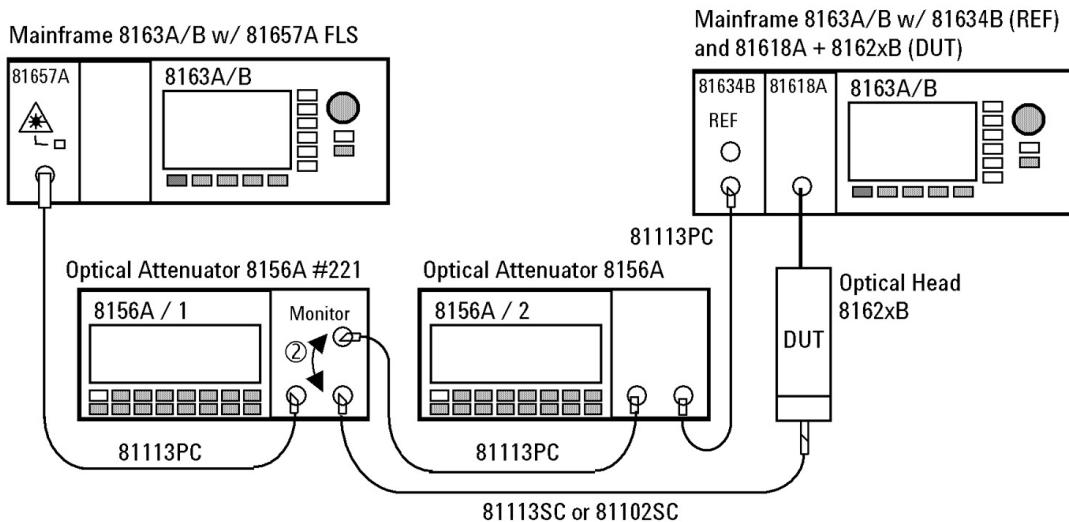

Figure 9 Measurement Setup for Power Linearity
- 3 Setup the equipment as shown in Figure 9. Disable both attenuators and enable the laser source, where the source wavelength is chosen to 1550 nm. If you are using the 81657A, move to the wavelength parameter, [I], press *Enter*, select the longer wavelength source (1550 nm nominally), and press *Enter*.